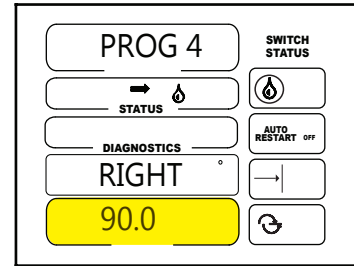

Figure 62-1
4. Set the right angle of the sector. See figure 62-1.